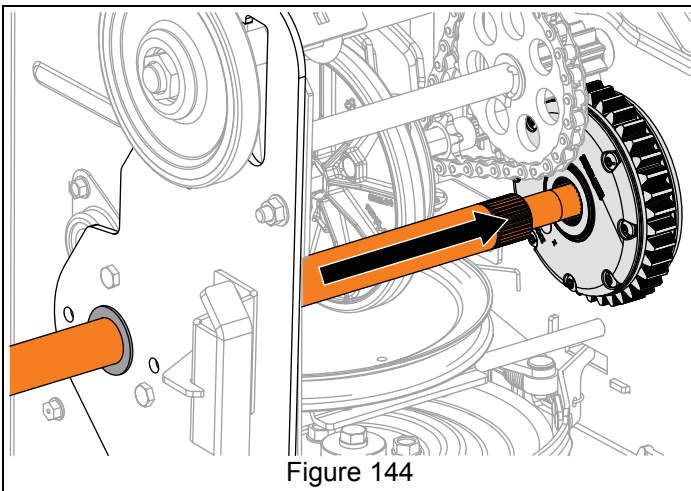

Figure 144
6. Reinstall long axle into differential gear. See Figure 144.